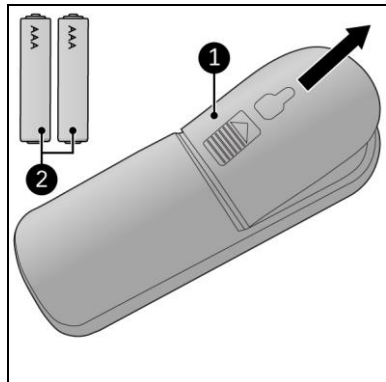

Figure 10
1. Remove the cover (Figure 10, pos. 1).
3. Insert two batteries (AAA 1.5 V) (Figure 10, pos. 2) as indicated in the battery compartment. Make sure to insert the batteries correctly.
5. Remove the batteries (Figure 10) from the remote control.